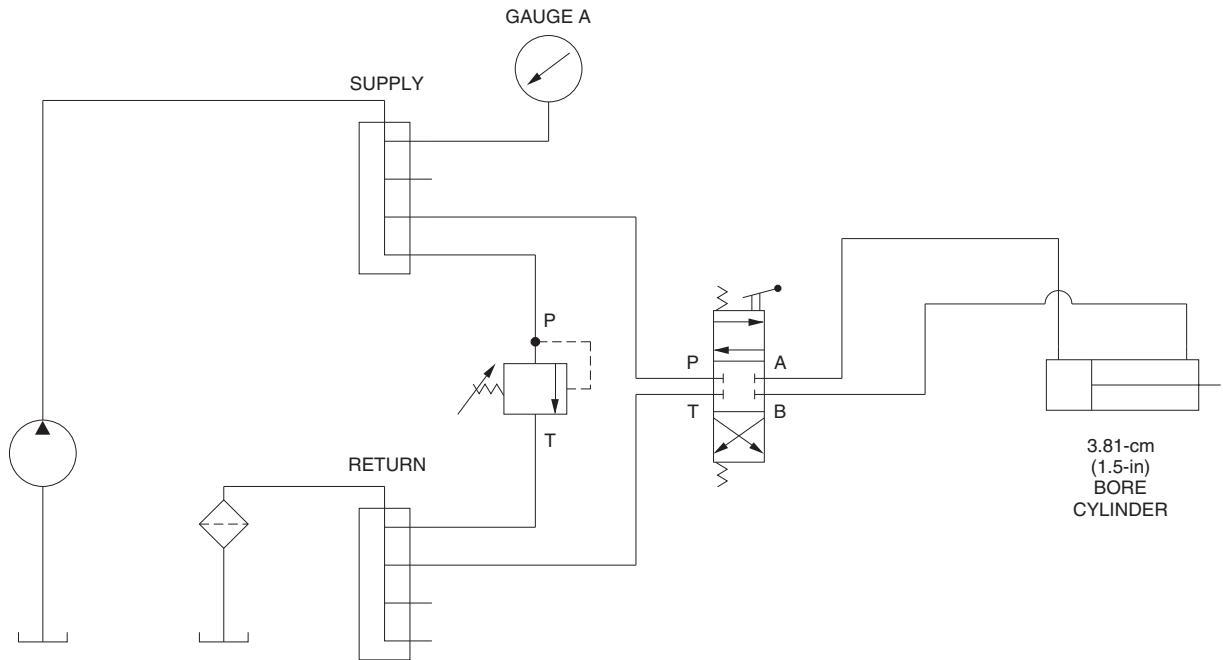

Figure 2-9. Schematic diagram of the cylinder actuation circuit.
- 9. Modify the existing circuit in order to obtain the circuit shown in Figures 2-9 and 2-10. Make sure to mount the 3.81-cm (1.5-in) bore cylinder in a position where its rod can extend freely.
Note: For ease of connection, the Directional Valve, Lever-Operated supplied with your Hydraulics Trainer is bolted to a subplate to which the hoses can be connected. The arrangement of ports P, T, A, and B on the valve subplate does not follow the symbol for the directional valve appearing in Figure 2-9 and on the manufacturer nameplate on top of the valve. Thus, port P actually faces port B on the subplate, while port T faces port A. Therefore, always refer to the letters stamped on the valve subplate when connecting the valve into a circuit.